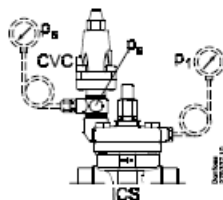

Fig. 5. ICS + CVC
CVC is fitted in the top cover of the ICS main valve, see figs. 5 and 7. Check that gaskets (A2) and O-rings (A1 and 104) are in place and in order – the O-ring (A1) must be lubricated with refrigeration oil, see fig. 1. NB: If O-ring (A1) is leaking or missing, the main valve will receive a signal to open. Banjo fitting (103) can be turned. Tightening should be made to a torque of 50 Nm (37 lb force ft) with a 32 mm wrench. The banjo fitting has two identical connection holes. In the one hole the signal line is fitted with the connection shown in fig. 3. The signal line from the CVC must be connected at the point where the pressure is to be regulated, e.g. immediately in front of the compressor if crankcase pressure regulator function is required. It must not be possible to block the signal line. In the other hole in the banjo fitting a manometer can be fitted for use when setting CVC. The manometer measures the pressure p_s in the signal line. Instead of blanking plug (44) a manometer connection, fig. 2 or 3, must be screwed in, see „Accessories“. If only one of the two connection holes in the banjo fitting is used the other must be blanked off with blanking plug (44). CVC can also be fitted in valve body CVH and be as a separate pilot valve or independent valve, see fig. 4. If CVC-CVH is used as a separate pilot valve the unit must be fitted in the pilot line with flow towards the main valve.